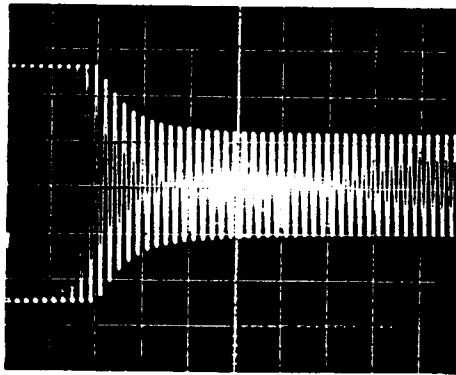

FIG. A-2: HIGH FREQUENCY LIMITER ATTACK
- (10) Reconnect the oscillator. Switch frequency to 1 kHz, and reduce the output level until 4 dB gain reduction is observed. Without moving the distortion analyzer input, measure the harmonic distortion, and adjust P203 (left distortion null) for minimum THD. Typical reading will be 0.025% if an 80 kHz lowpass filter is employed to reduce the effects of out-of-band noise on the reading.
- (11) Connect the oscillator to the RIGHT AUDIO INPUT, and follow the instructions of step 10, substituting P204 (right distortion null), and observing the right channel broadband limiter output (terminal 31).
- (12) Connect the distortion analyzer to the right channel h. f. limiter output (terminal 5). This is a fork terminal located towards the left rear of the limiter board when viewed from the front. Increase oscillator frequency to 5 kHz; decrease oscillator output until GAIN REDUCTION meter just barely reads 0 dB.
- (13) Operate the distortion analyzer such that the scope displays the input to the distortion analyzer. Reduce analyzer sensitivity until no overload occurs. With scope in NORMAL TRIGGER mode, adjust TRIGGER LEVEL until sweep barely shuts off.
- (14) As you did with the broadband limiter test in step 9, alternately connect and remove the hot lead from the oscillator, while observing the scope as it triggers on the overshoot from the high frequency limiter. Adjust P209 (high frequency FET bias) until the scope displays a single-shot pattern like fig. A-2 with the scope time base adjusted for 1 ms/cm.